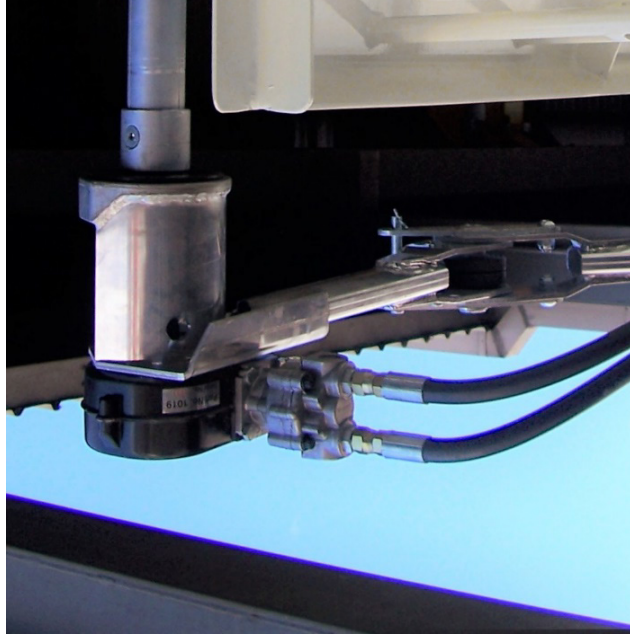

Figure 3: Example of system plumbing
4. If the arm cannot be moved to the lowest point in its travel. A 50 mm (2") Ratchet strap should be used to pull the upper section of the arm downwards towards the ground as shown in **Figure 3**. This should then be anchored to the chassis or rigid hard point. **NOTE:** The ratchet mechanism **MUST** be accessible from ground level while standing on the **open position** side of the body/vehicle.